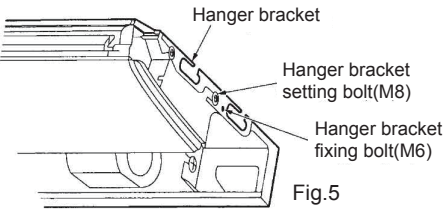

Fig.5
(Refer to Fig.5).
(6). Screw tightly both hanger bracket-setting bolts (M8). (Refer to Fig.5)
(7). Screw tightly both hanger bracket-fixing bolts (M6) to prevent the displacement of the indoor unit. (Refer to Fig.5)